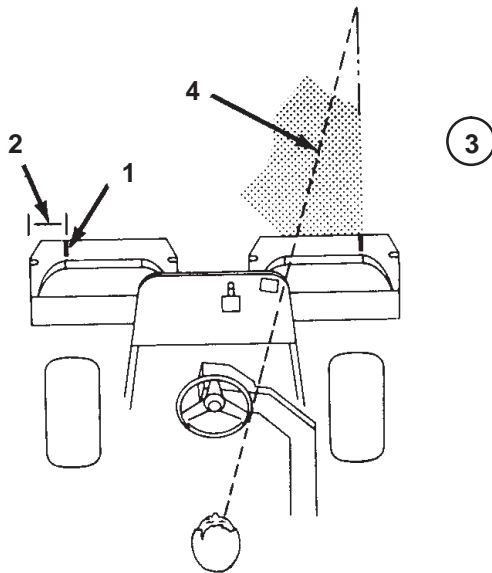

Figure 27
2. Either place a strip of white tape or paint a line onto each basket paralleling the outer edge of each basket (Fig. 27).
3. Overlap a minimal amount with the previous cut on return passes. To assist in maintaining a straight line across the green and keep the machine an equal distance from the edge of the previous cut, establish an imaginary sight line approximately 6 to 10 ft. (1.8 to 3 m) ahead of the machine to the edge of the uncut portion of the green (Fig. 27 and 28). Some find it useful to include the outer edge of the steering wheel as part of the sight line; i.e. keep the steering wheel edge aligned with a point that is always kept the same distance away from the front of the machine (Fig. 27 and 28).